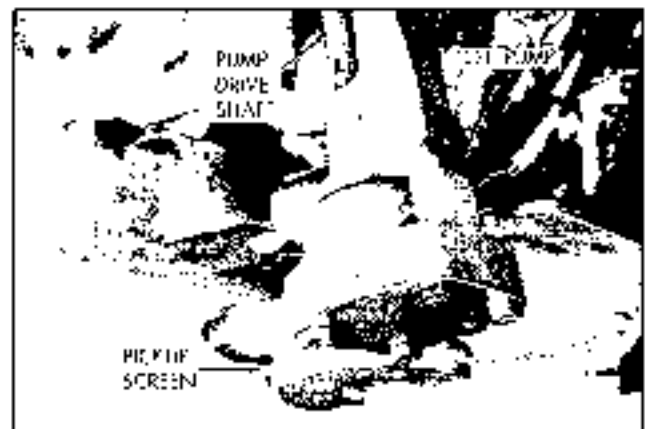

Fig. 6-103 Oil Pump and Oil Pump Drive Shaft
2. Remove oil pump attaching bolts while holding oil pump in place. Carefully lower oil pump away from block with one hand while removing oil pump drive shaft with other hand (Fig. 6-103).